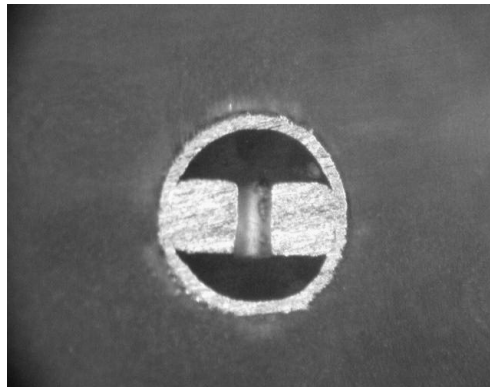

Figure 2: PCB Hole Deformation Radius-Cross-section parallel to board surface.
The EON was designed to meet the requirements for press-fit terminations according to MIL-STD-2166. Figure 2,3 illustrates a typical cross-section of EON pin after insertion into a PCB. This terminal may be used in a tin-lead, lead free PTH or in a copper OSP PTH. The OSP boards have special protective coatings to reduce oxidation. The specification requires the following:
- b. PCB Hole Deformation Radius-Cross-section parallel to board surface(see figure 2). Photograph and measure the hole deformation (deformation on board material) radius at a point 0.010" from the surface, and at the center of the EON pin section. Include 10 holes. The average (of 10 holes) hole deformation radius shall be no greater than 0.0381mm (0.0015 inch) when measured from the drilled hole. The absolute maximum deformation radius shall not exceed 0.0508mm (0.002 inch). Reference MIL-STD-2166.